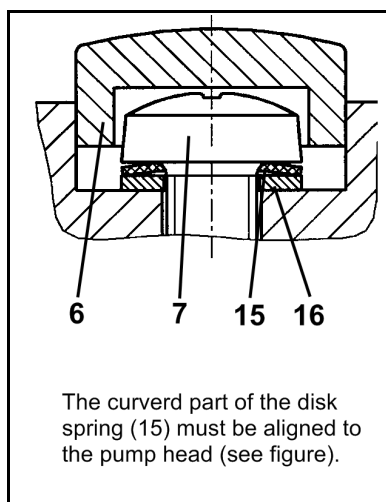

Fig. 14: Orientation disk spring
**i** For placement of disk spring (15) and washer (16) and for orientation of disk spring see fig. 14.
10. Install the screw caps (6).